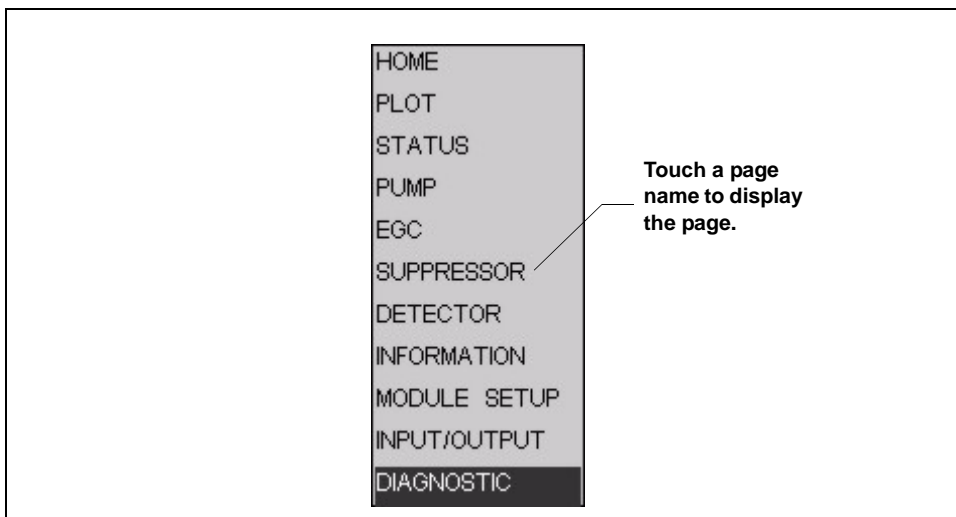

Figure 2-4. ICS-2100 Touch Screen Menu of Pages
- Touching the page name (for example, ) in the bottom right corner opens a menu of pages (see Figure 2-4).